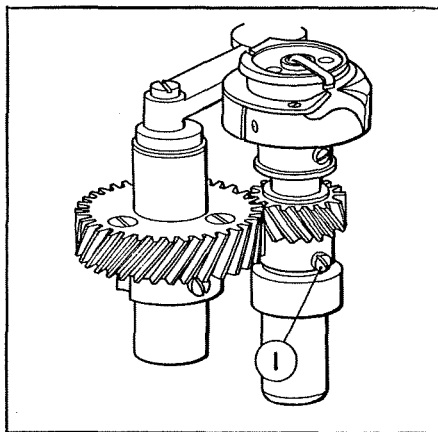

Fig. 22
Loosen the set screw (① of Fig.22) on the small gear which drives the hook driving shaft (small) and adjust the timing of sewing hook.